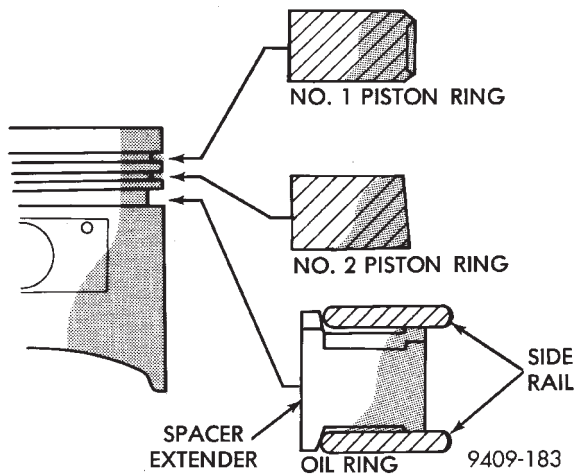

Fig. 8 Piston Ring—Installation
(1) The No. 1 and No. 2 piston rings have a different cross section. Install rings with manufacturers mark and size mark facing up, to the top of the piston (Fig. 8).